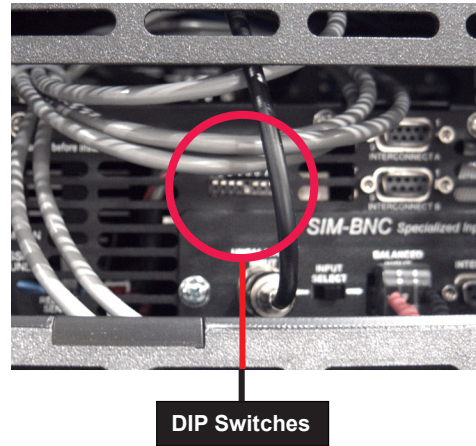

Figure 4.1 – Location of Amplifier Module's DIP Switches
Open the system's access door located on the back of the unit. Find the bank of eight (8) DIP switches located on the amplifier module's back panel. See **Figure 4.1**.